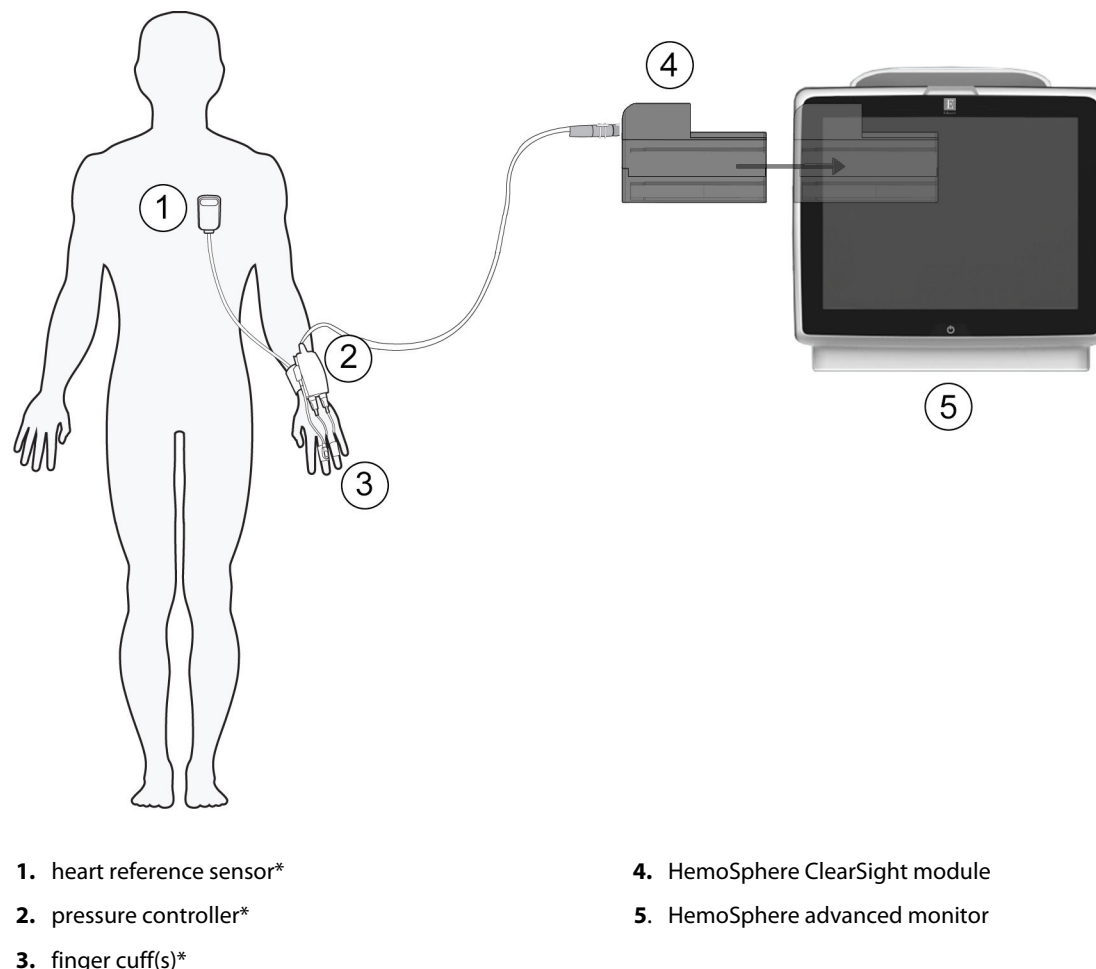

Figure 11-1: HemoSphere non-invasive system connection overview
The HemoSphere noninvasive system is composed of the HemoSphere advanced monitor with ClearSight module and connected pressure controller, heart reference sensor, and compatible Edwards finger cuff(s). See system connections in Figure 11-1 on page 203. Accurate measurement of the patient's blood pressure and key hemodynamic parameters is based on the Volume Clamp method, Physiocal method and ClearSight algorithm.
The HemoSphere ClearSight module is compatible with all approved Edwards finger cuffs. See Figure 11-1 on page 203 for an overview of the HemoSphere non-invasive system connections.
Components indicated by * in Figure 11-1 on page 203 legend are APPLIED PARTS as defined in IEC 60601-1 that in normal use necessarily come into physical contact with the patient for the HemoSphere non-invasive system to perform its function.
3. Attach the pressure controller cable to the HemoSphere ClearSight module. (Figure 11-1 on page 203)